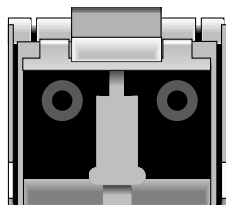

FIGURE 5-3 Duplex Jack at the End of an SFP connector.
2. Plug one end of a Fibre Channel cable into the duplex jack at the end of the SFP connector, as shown in FIGURE 5-3.